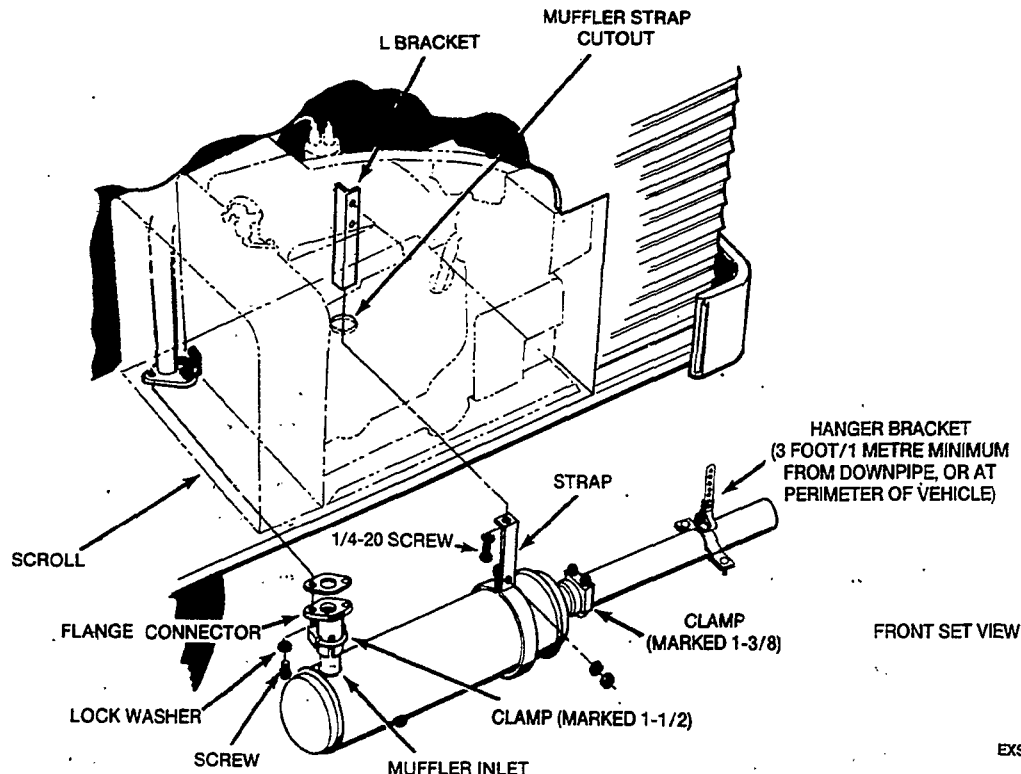

FIGURE 6-1. CONVENTIONAL COMPARTMENT MOUNT EXHAUST SYSTEM
Figure 6-1 shows a typical exhaust system for a compartment mount generator set. Figure 6-2 illustrates a typical exhaust system for an underfloor mount generator set. Separate service procedures cover each type of exhaust system. Also refer to the exhaust kit installation instructions.
1. Loosen the front muffler clamp, muffler strap, and tailpipe hanger. Remove the muffler and tailpipe assembly. (Figure 6-1)